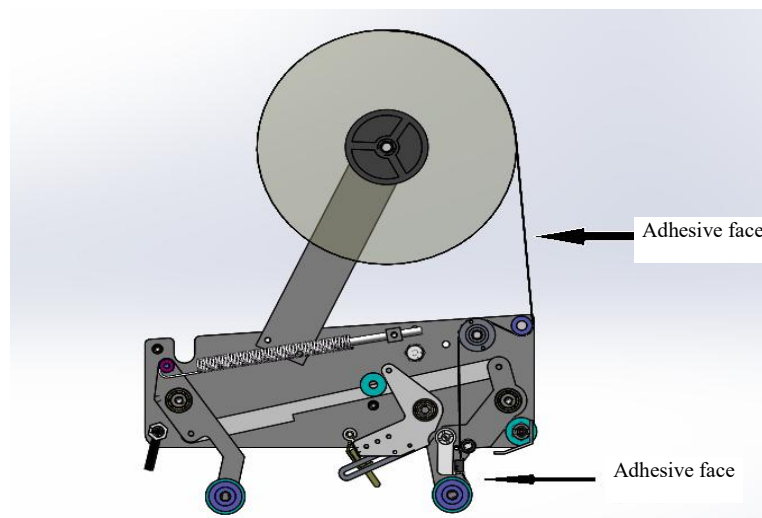

Figure 22
4.2 Threading diagram (see Figure 22):